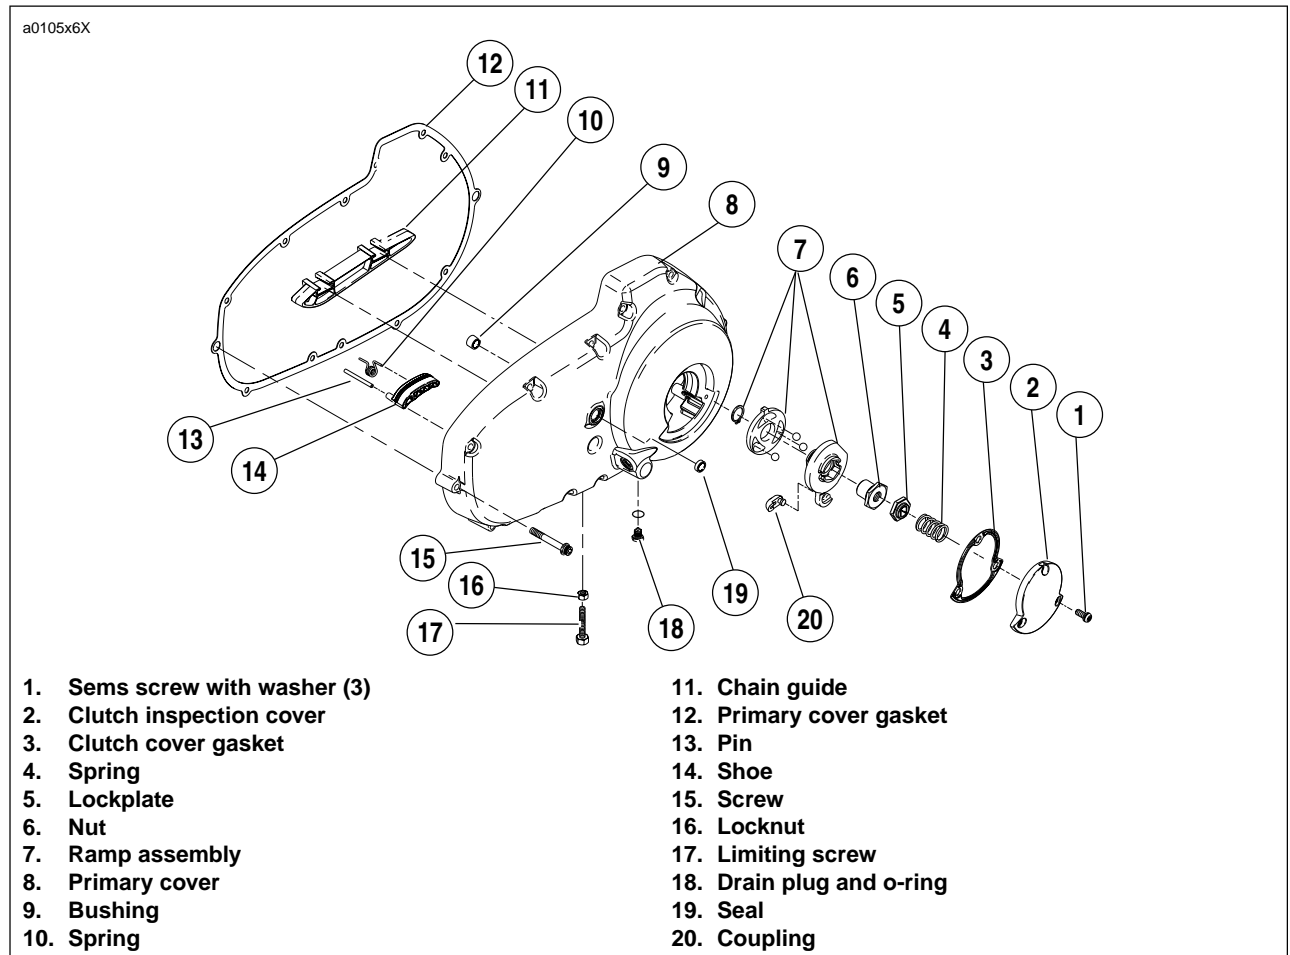

Figure 6-8. Clutch Release Mechanism
5. See Figure 6-8. Remove three sems screws with washers and clutch inspection cover.
2. See Figure 6-8. Inspect three balls of release mechanism and ball socket surfaces of inner and outer ramps for wear, pitting, surface breakdown and other damage. Replace parts as necessary.